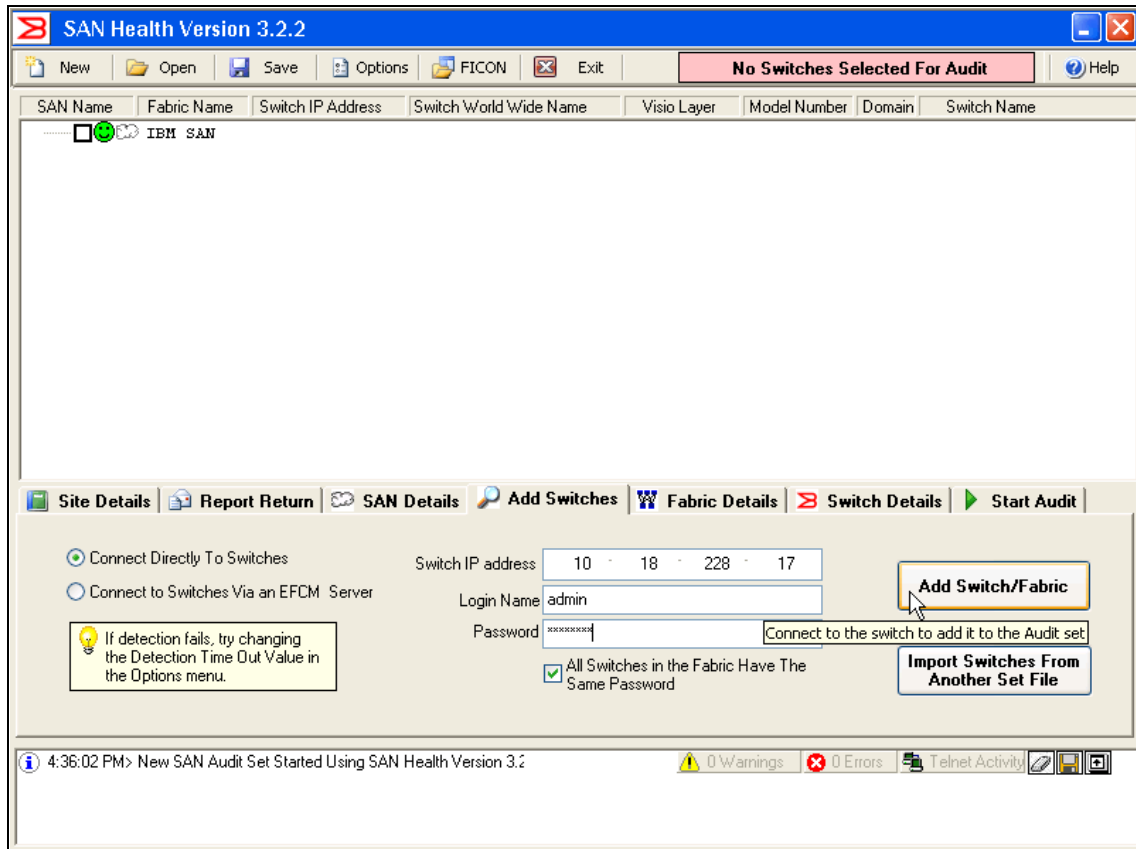

Figure 17-9 SAN Health Diagnostics Capture Add Switches
4. Next, add your switches using the *Add Switches* tab (Figure 17-9).